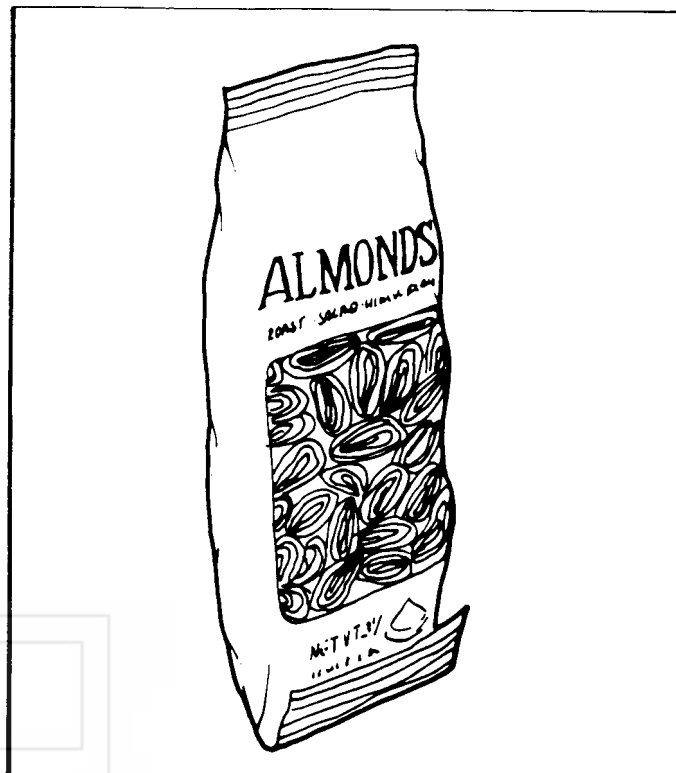

Figure 8. FOLD BAGGED ITEMS BOTTOM EDGE FORWARD AND UP.
10. BAGGED OR BOXED ITEMS in the 10-selection shelves if not loaded properly could be a problem. The sealed edge of the bag may get under the spiral wire causing the product to hang up after it has been vended. It is recommended that the lower edge of these types of product be folded forward and up (see Figure 8) next to the product before inserting into the spiral space.